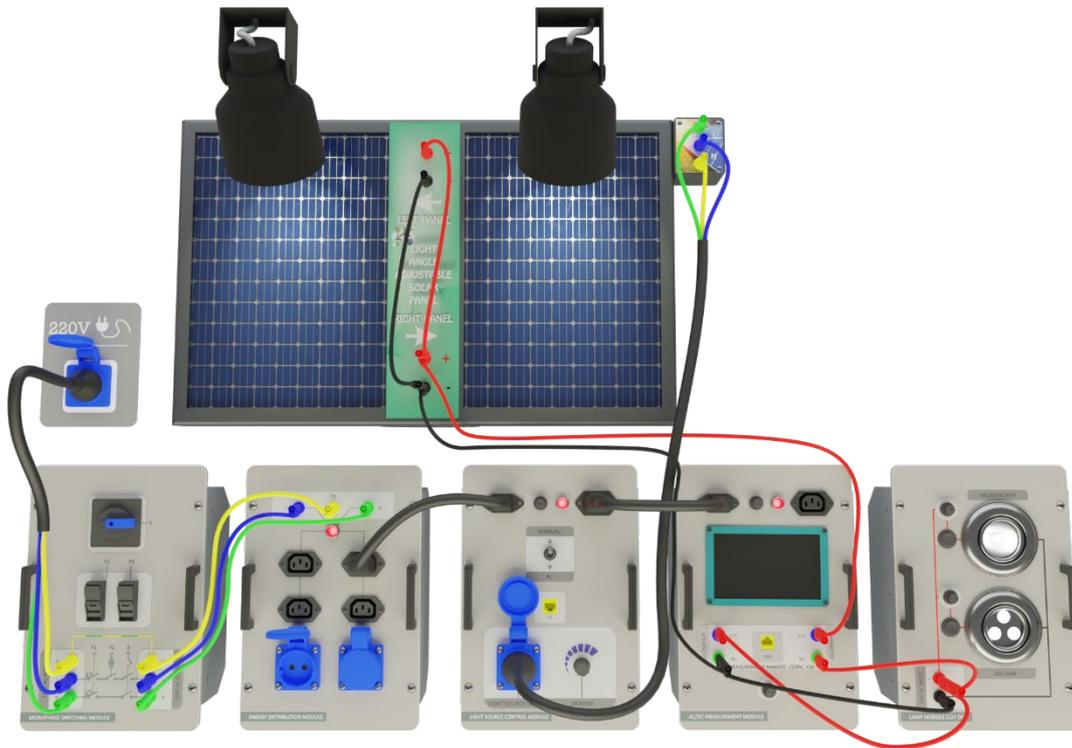

Figure-60. Installation Image of Direct Load Connection to Photovoltaic Panels
1. Set up the connection as specified in Figure-60. Ensure a constant level of light in the laboratory by creating an average scenario. Any alterations to the positions of the lamps or curtains will have an impact on the experimental outcomes.